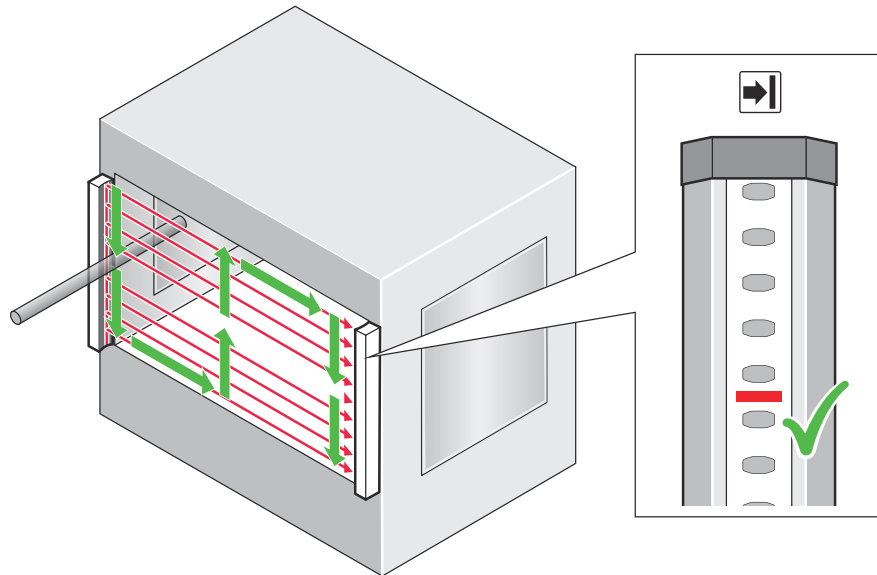

Figure 41: Test rod check: Step 1
1. Move the test rod slowly through the area to be protected (e.g., machine opening), as indicated by the arrow, see figure 41.